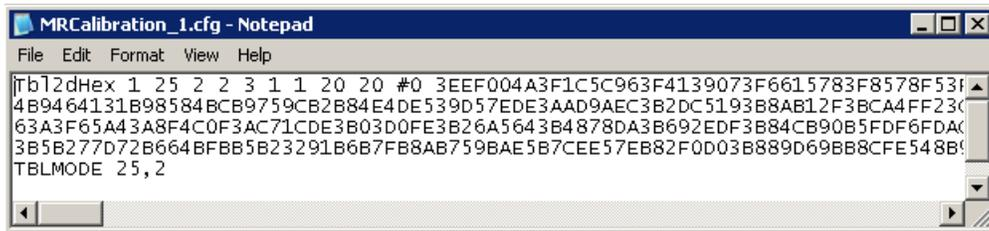

Figure 8: New MR Calibrated configuration file with 2D table
1. Open the new MR calibrated *.cfg file located under \\QdPpms\Tools. (Figure 8)